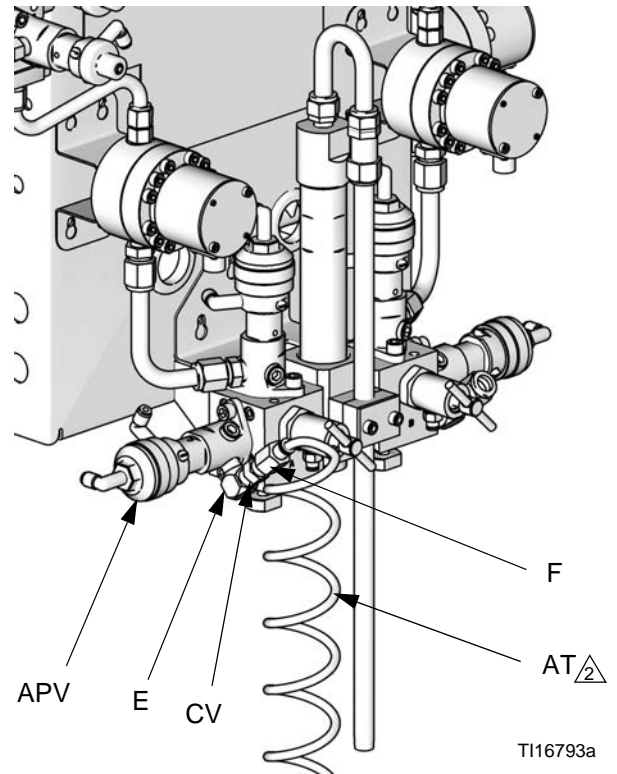

FIG. 9. Purge Air Supply Tube and Check Valve
- See FIG. 9. Install the supplied elbow (E), check valve (CV), and tube fitting (F) at the inlet of the air purge valve (APV). Use the 25 ft (7.6 m), 1/4 in. (6 mm) OD purge air tubing (AT, supplied) to connect a clean, dry air supply to the fitting (F) at the air purge valve inlet. Install filters/dryers as needed.